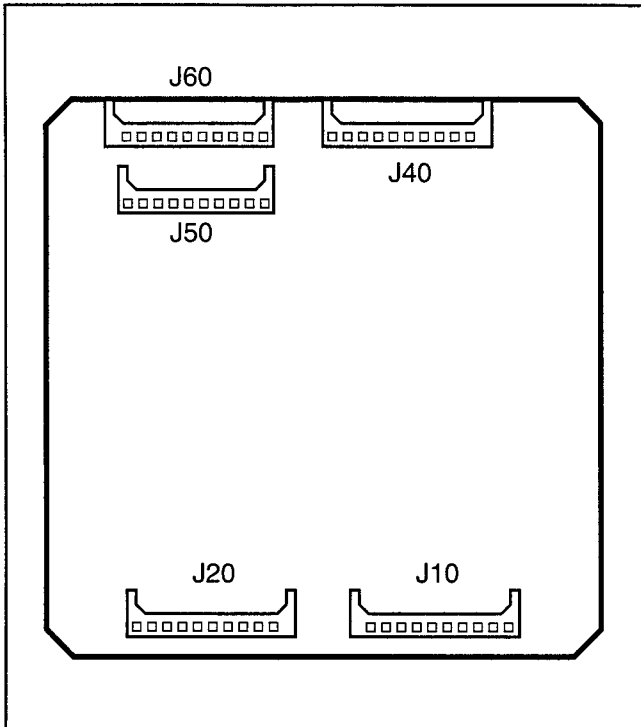

FIGURE 5-14
- 2) Mate EOCU connectors J10, J20, J40, J50, and J60 with PEKU connectors P10, P20, P40, P50, and P60 (Figure 5-14).